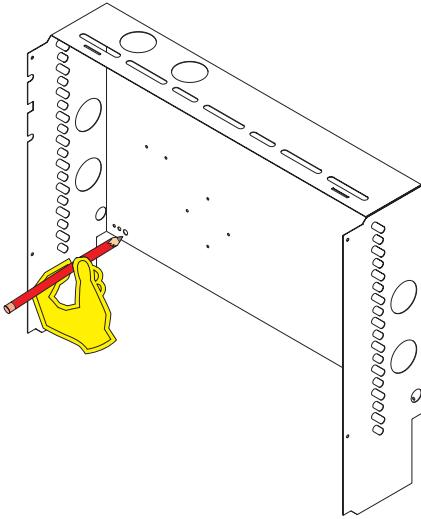

Figure 3
6. Place the deep shroud back into position against the wall and mark the mounting hole locations. **See Figure 3.** Drill the proper sized holes for the field supplied anchors. The mounting holes are sized to accommodate 3/16", 1/4", or 3/8" diameter anchors.